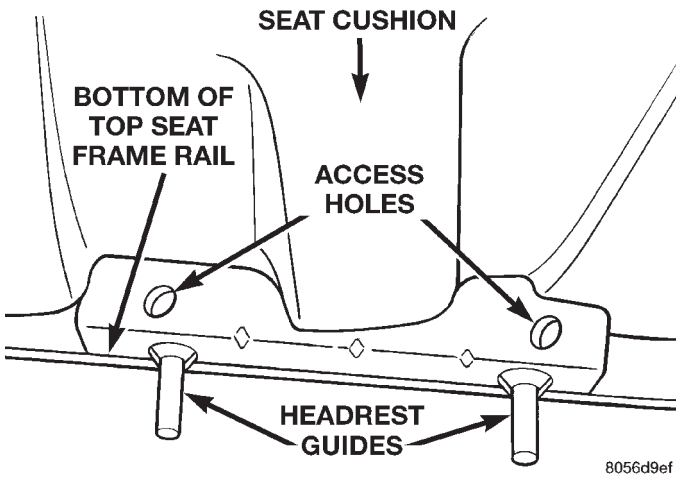

Fig. 10 Headrest Guides
(14) Remove headrest guides (Fig. 10).